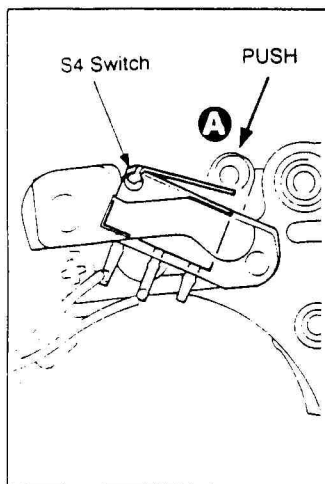

Fig.1 Back side view
1. Adjust so that the clearance between the contact of the S4 switch and the upper tip of the switch will be 0.1 to 0.4 mm when the wind-up stopper lever ① is pressed fully. (See Fig. 1.)